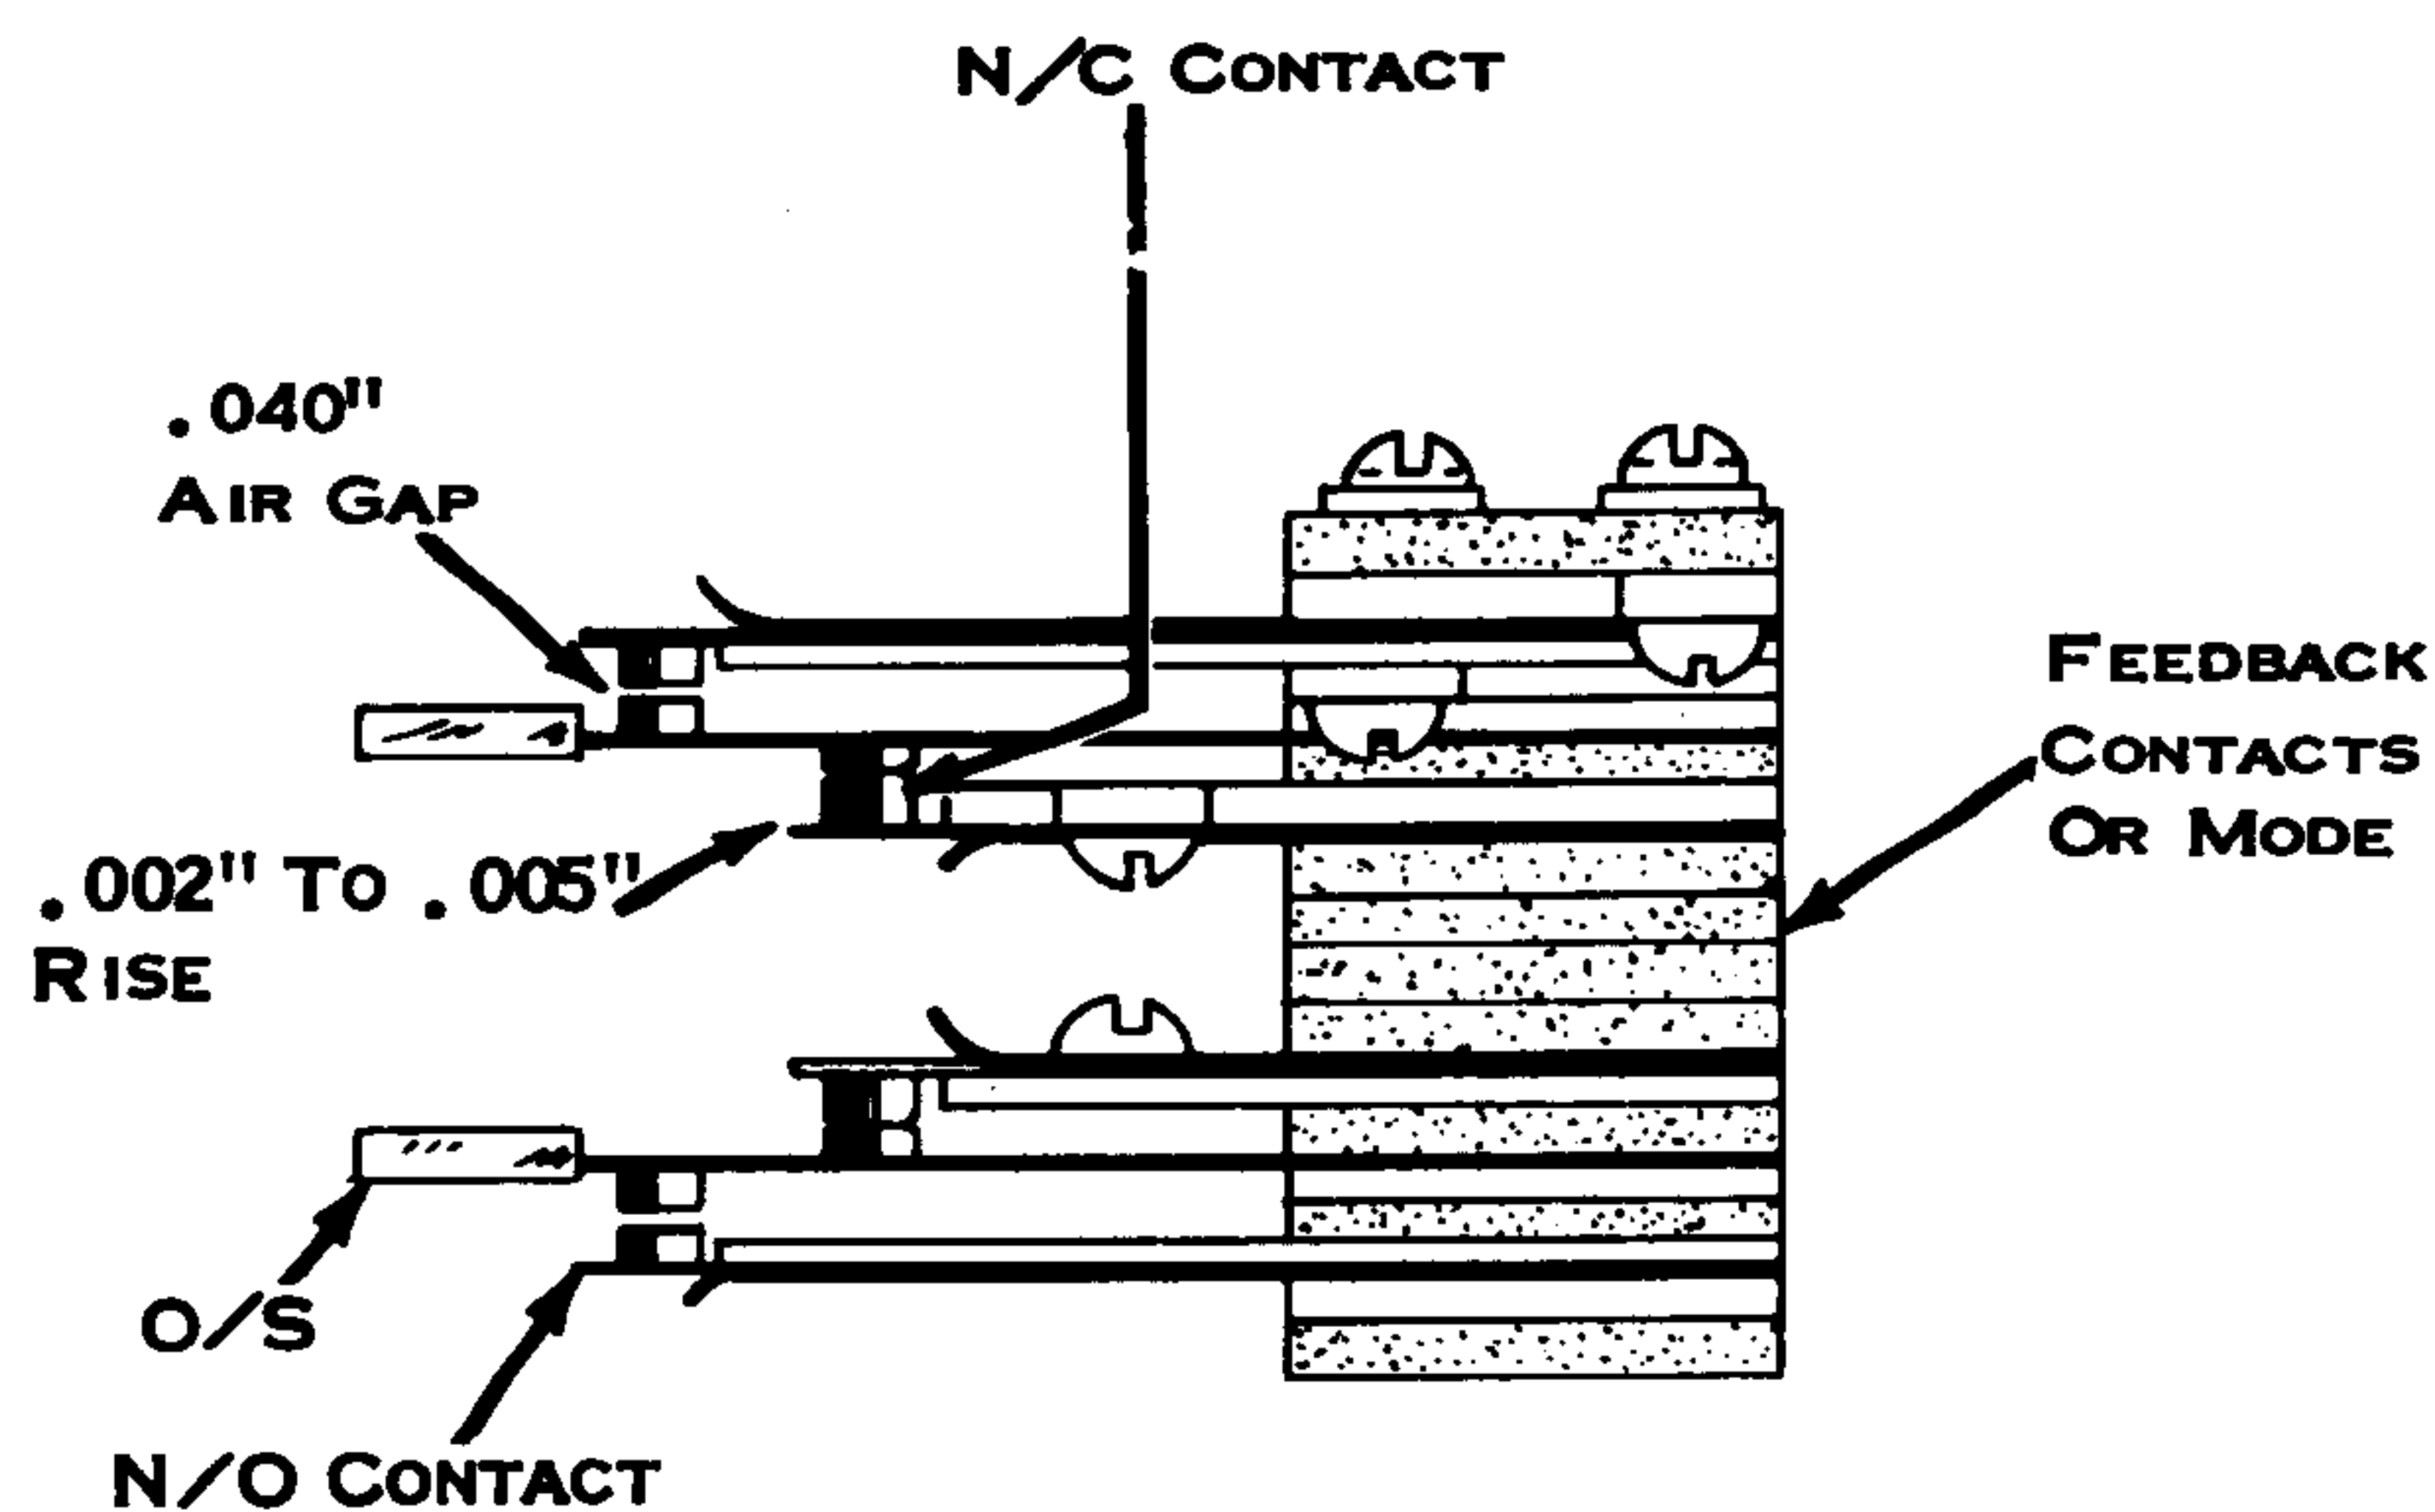

Figure 104. Contact Rise and Air Gap
- Feedback or Mode Contact Rise and Air Gap (Fig. 104) -